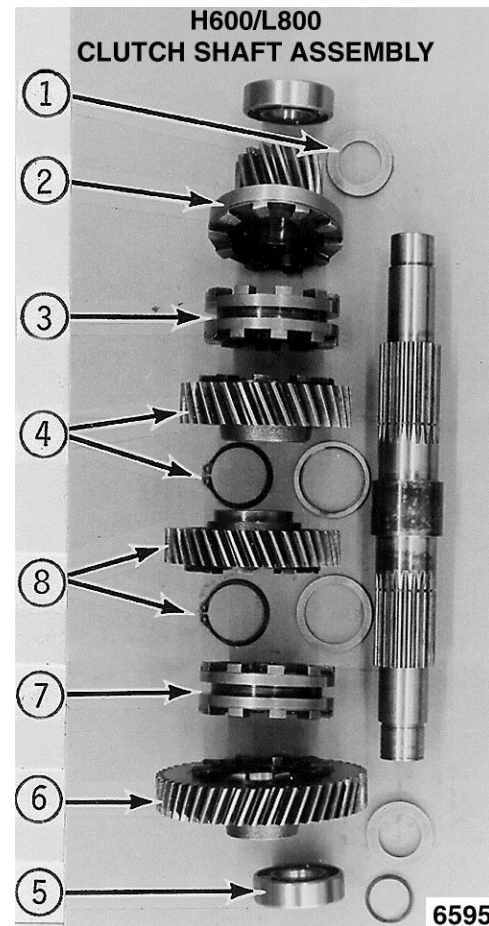

Fig. 63
1. Remove spacer [1] Fig. 63.
2. Remove upper clutch and upper gear assembly [2] Fig. 63.
3. Remove shifting clutch [3] Fig. 63.
4. Remove retaining ring, upper clutch, lower gear assembly, and washer [4] Fig. 63.
5. Remove lower retaining ring, ball bearing, and washer [5] Fig. 63.
6. Remove lower clutch and lower gear assembly [6] Fig. 63.
7. Remove shifting clutch [7] Fig. 63.
8. Remove retaining ring, lower spacer, and lower clutch. Also remove the upper gear assembly [8] Fig. 63.